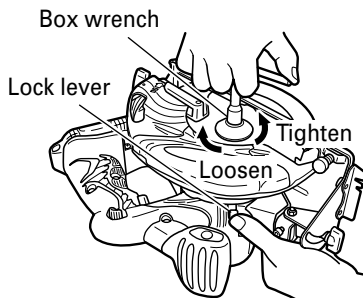

Fig. 16
- (1) Set the cutting volume at maximum, and place the Circular Saw as shown in Fig. 16.